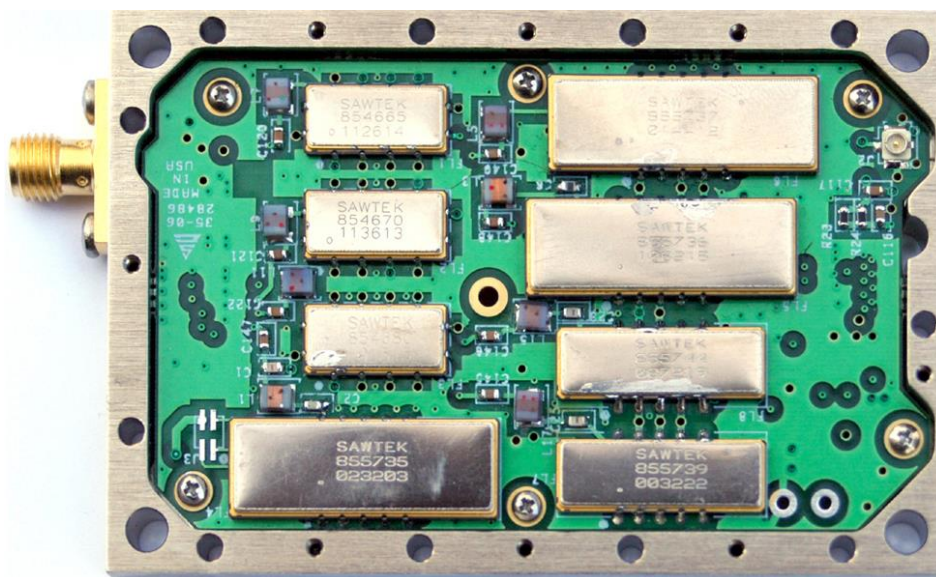
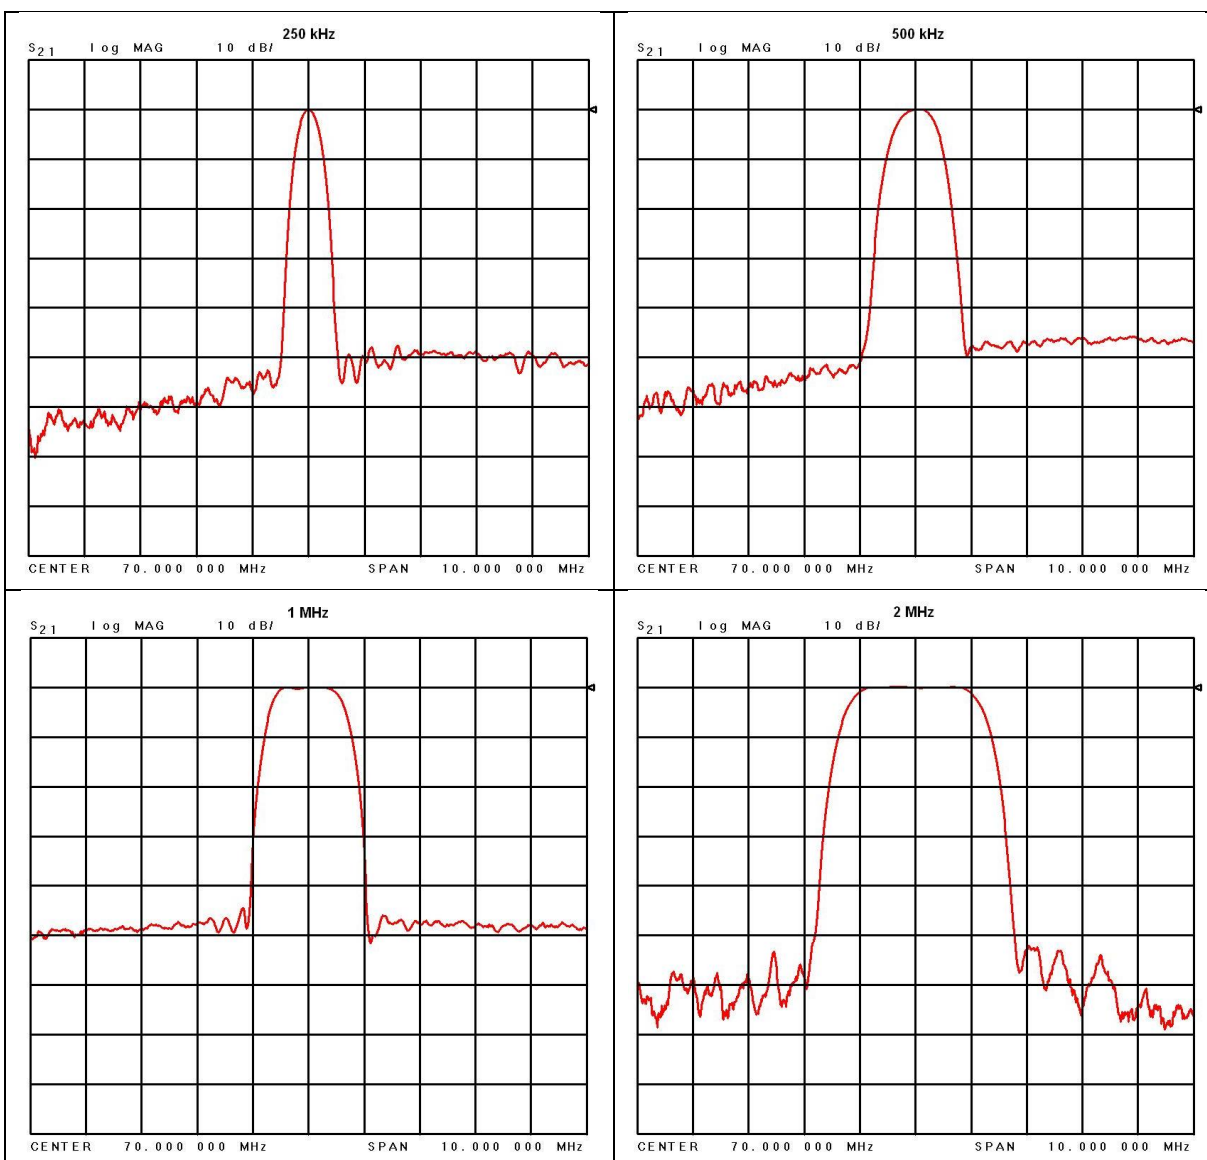
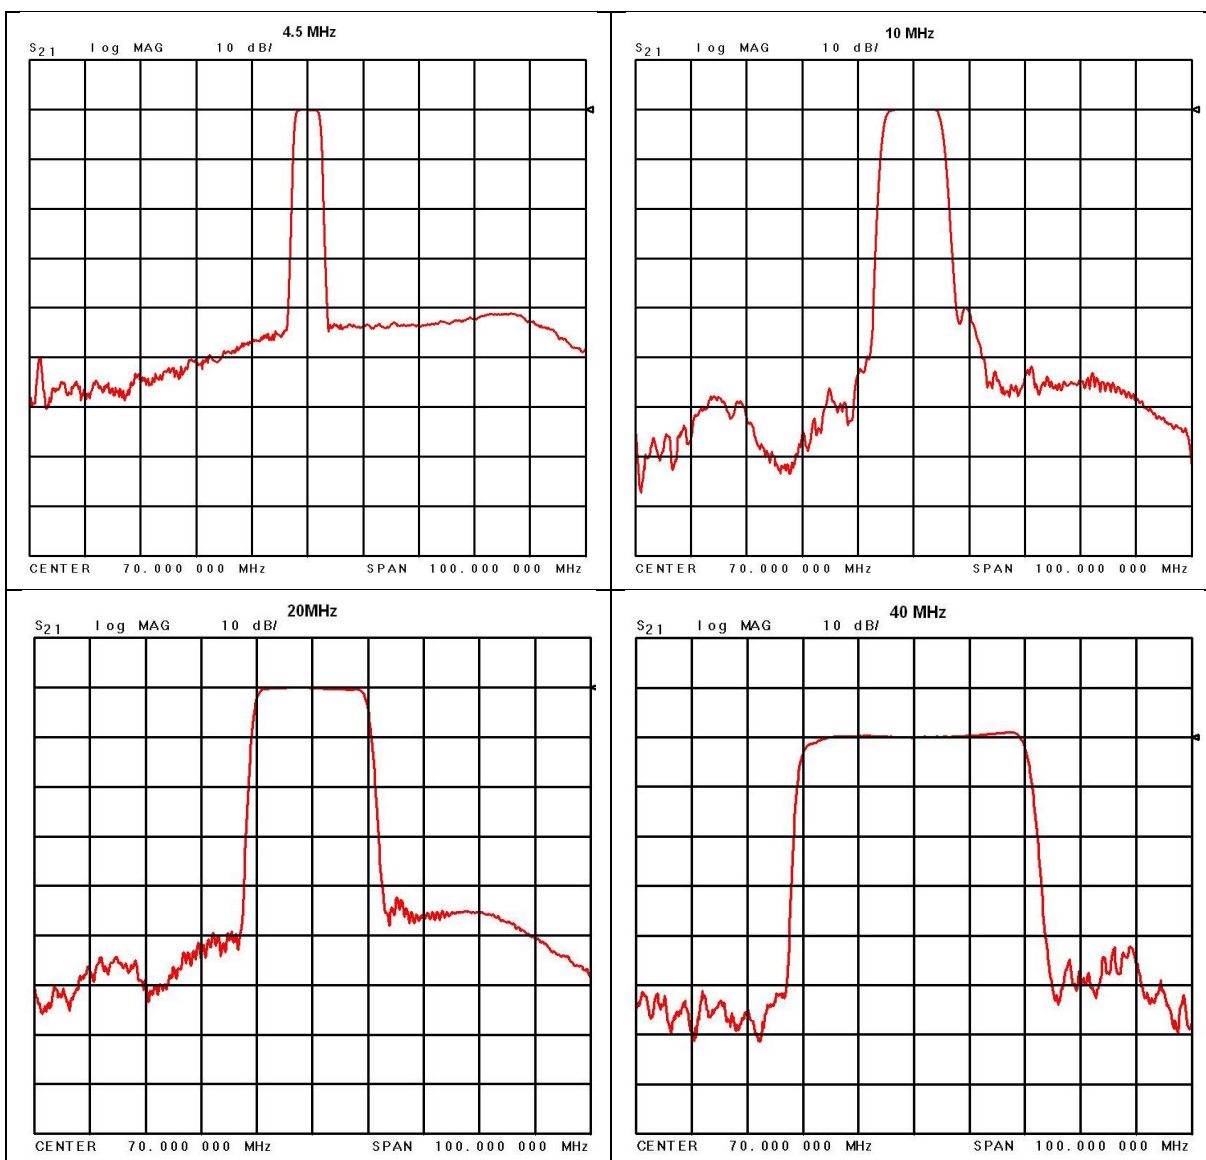

Figure 8: 70 MHz IF Module in 2" x 3" Chassis
Figure 9: 70 MHz IF Module in 2" x 3" Chassis SAW Filter Responses, Narrow Group (10 MHz Span)
Figure 10: SAW Filter Responses, Wide Group (Plotted on 100 MHz Span)
The receiver's integrated IF filter module, shown in Figure 8, includes eight (8) SAW filters, ranging in bandwidth from 250 kHz to 40 MHz in approximately one octave steps. The standard eight filters are 250 kHz, 500 kHz, 1 MHz, 2 MHz, 4.5 MHz, 10 MHz, 20 MHz, and 40 MHz. These filters serve as anti-aliasing filters ahead of the A/D converter in the demodulator itself. In addition, they can provide an added measure of adjacent channel interference rejection. The measured responses of the eight filters are shown in Figure 9 and Figure 10 (note the change of horizontal scale between the two figures).